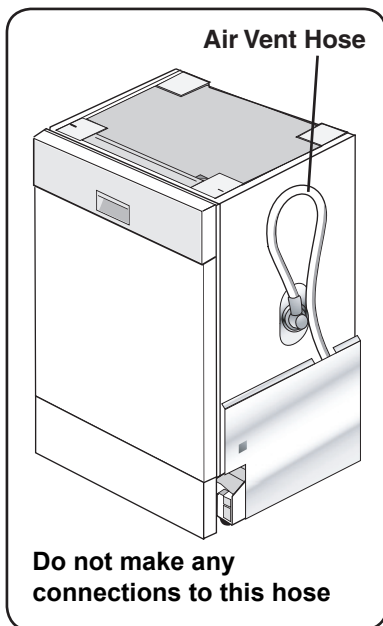

Figure 28
- The hose shown in Figure 28 is an air vent. The end of this hose should be left in the dishwasher base.